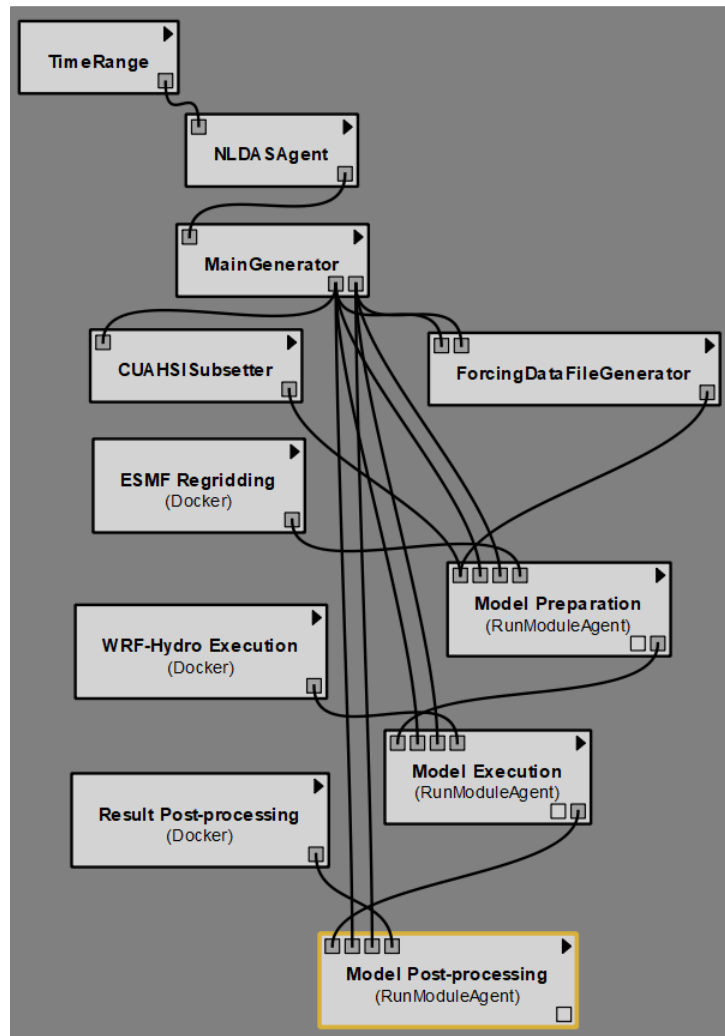

Figure 93. The workflow connecting Result Post-processing Docker module and Model Post-processing RunModuleAgent
- Connect the outputs of the WRF-Hydro Post Processing to the new RunModuleAgent as shown in Figure 93.